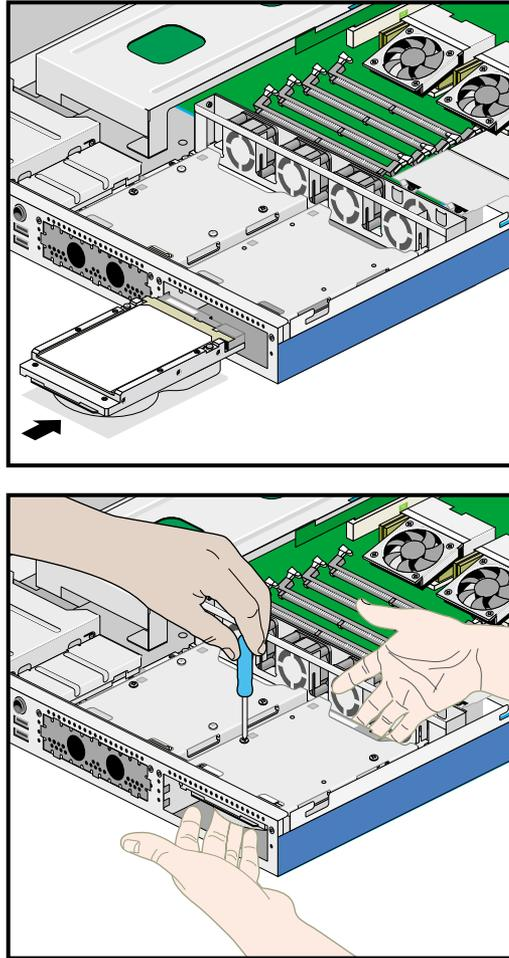

Figure 2-39 Installing the Hard Disk Drive
5. While another person holds the hard drive up against the frame, tighten two diagonally-located screws to secure the drive in place, as shown in Figure 2-39.